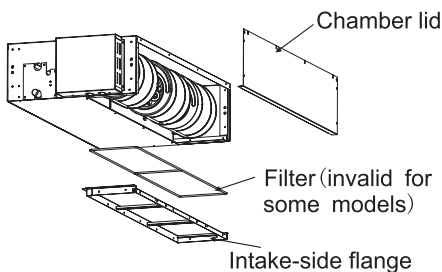

Fig. 3.1.4
- (2) Reattach the removed chamber lid in the orientation shown in Fig. 3.1.4, reattach the removed intake-side flange in the orientation as shown in Fig. 3.1.4.